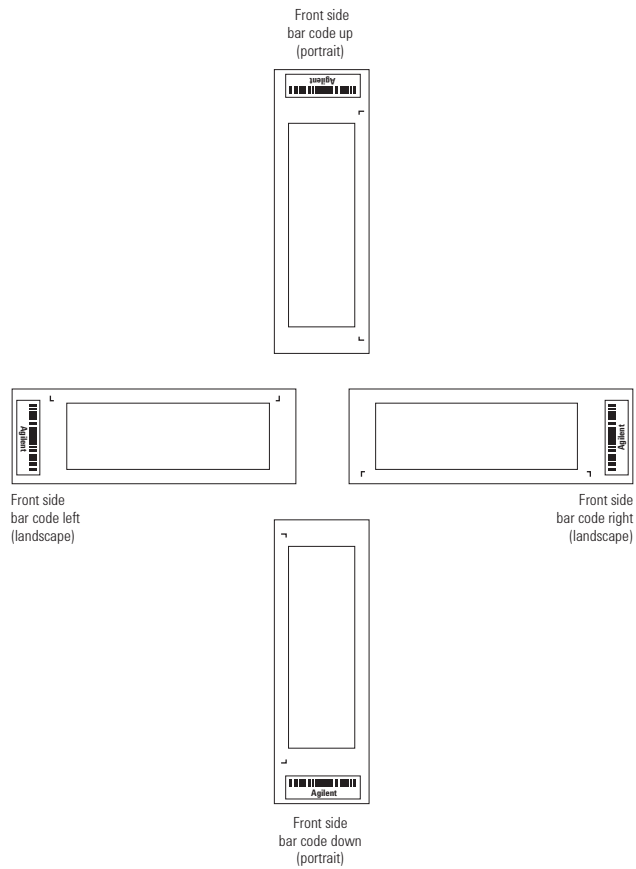

Figure 10 Microarray slide orientation
- If the image produced by the non-Agilent scanner is oriented in a “portrait” or “landscape” mode, “Agilent”-labeled barcode left-side, right-side, up or down, as viewed as an image in the imaging software (see Figure 10).